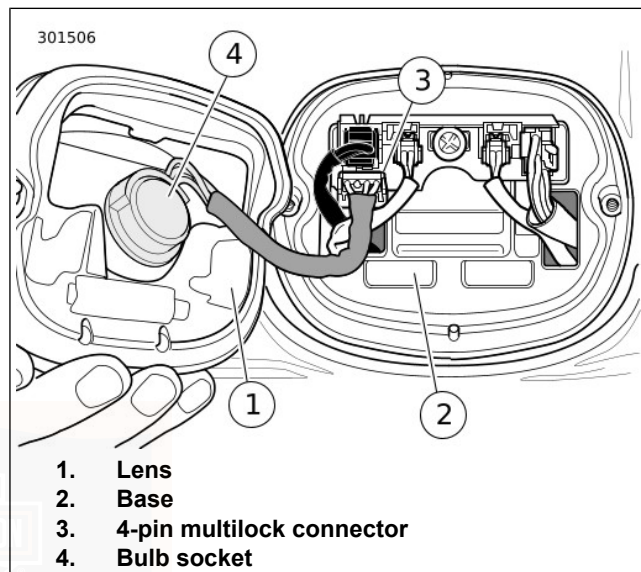

Figure 46. Tail Lamp Assembly
1. See Figure 46. Turn ignition switch off.